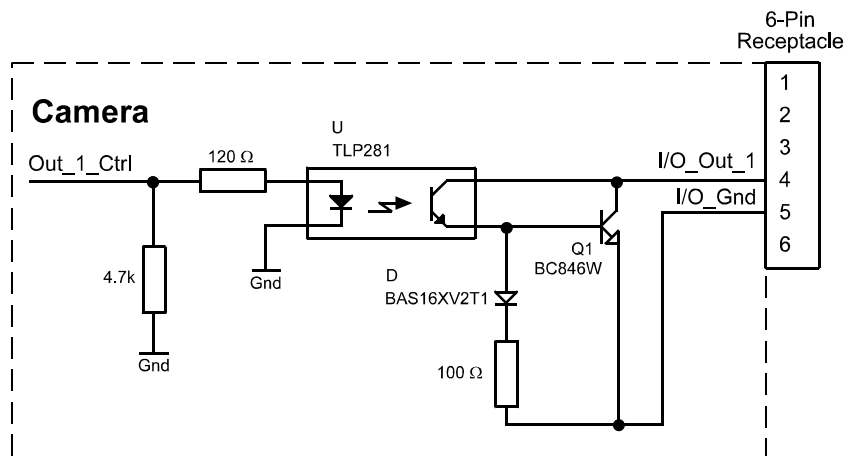

Fig. 37: Output Line Schematic
- A logical zero on Out_1_Ctrl results in a non-conducting Q1 transistor in the output circuit (see Figure 37).